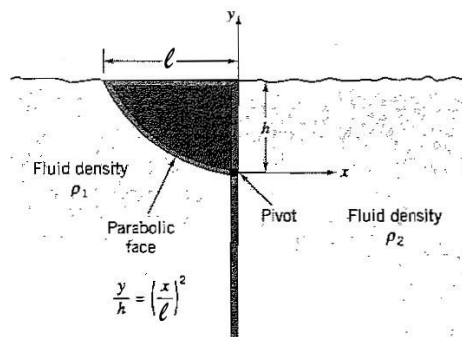

Figure P2.97
2.97 A rigid, weightless, two-dimensional gate of width W separates two liquids of density ρ_1 and ρ_2 respectively. The gate has a parabolic face, as shown in Figure P2.97, and it is in static equilibrium. Find the ratio ρ_2/ρ_1 when $h = \ell$.